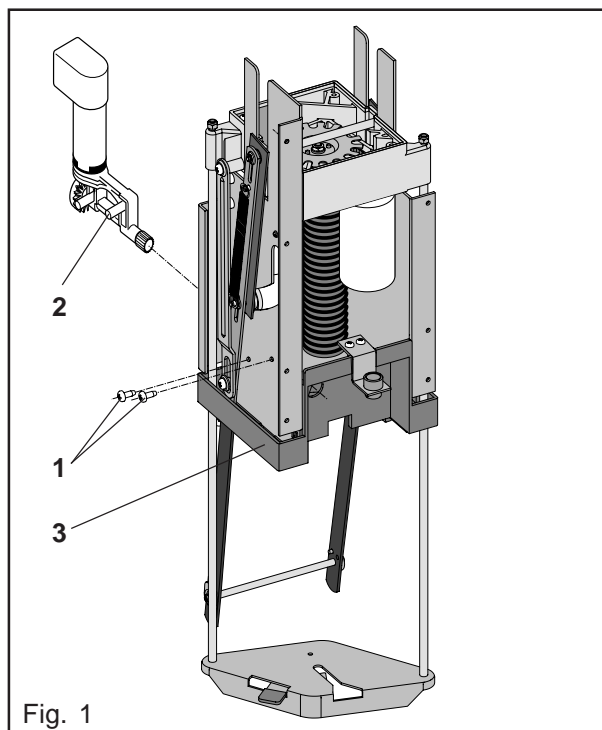

Fig. 1
- Remove the two screws (1). (Fig. 1)
- Pull the dosing motor (2) backwards. (Fig. 1)